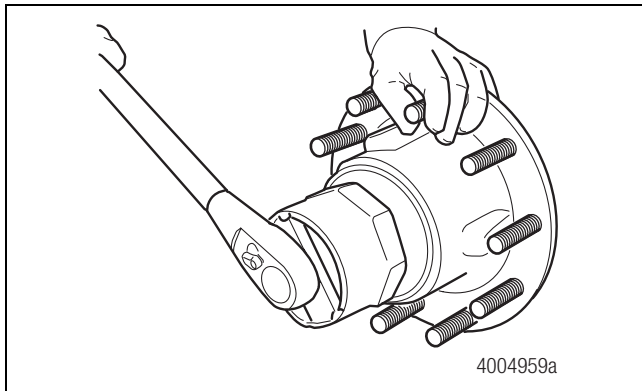

Figure 3.35
13. Install the hubcap and tighten it to 50-75 lb-ft (68-102 N•m). Figure 3.35. **ⓘ**